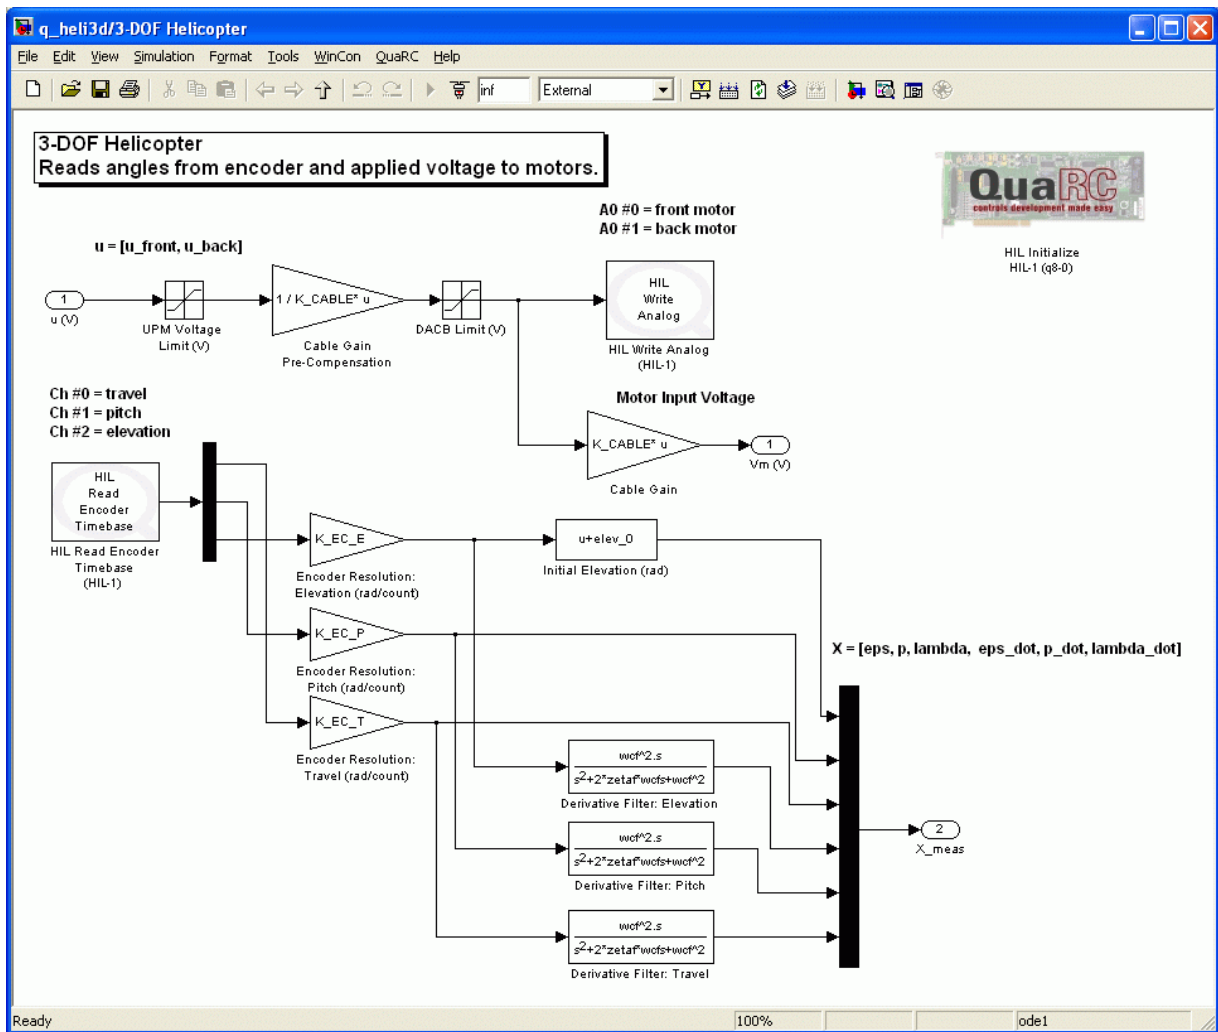

Figure 29: 3-DOF Helicopter subsystem used to interface with hardware.
5. Open the *3-DOF Helicopter* subsystem shown in Figure 29. It contains the QuaRC blocks that interface with the hardware of the actual plant. The Analog Output block outputs the voltage computed by the controller to the DACB and the Encoder Input block reads the encoder measurements.
6. **Configure DAQ:** Double-click on the HIL Initialize block in the Simulink diagram and ensure it is configured for the DAQ device that is installed in your system. By default the block shown in Figure 29 is setup for the Quanser Q8 hardware-in-the-loop board.